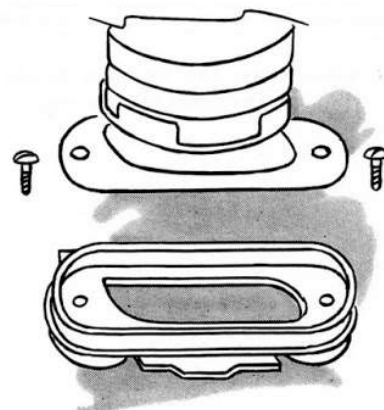

FIG. 133—Bag ring and muffler assembly, Model 60 cloth bag
- c. Remove two screws in the bag ring to free the muffler assembly. Figure 133.